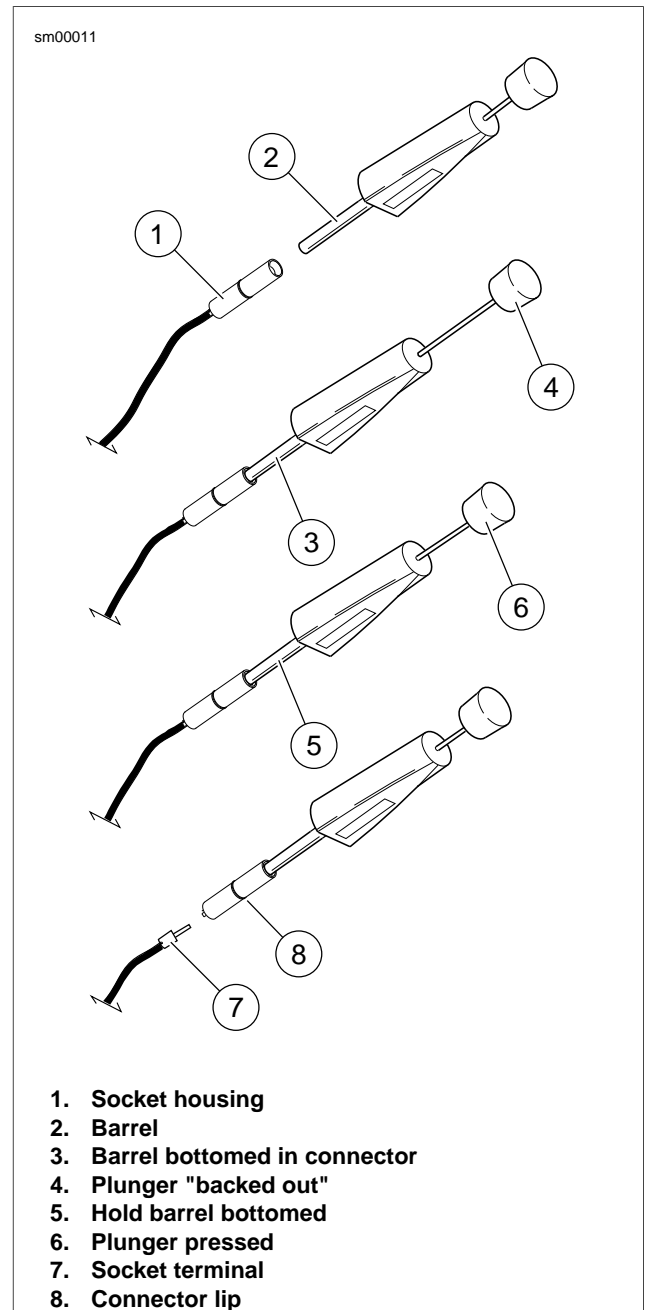

Figure A-1. Socket Terminal Tool (HD-39621-27)
1. See Figure A-1. Grasp the lead on the wire end of the socket housing (1) and push the terminal forward toward the mating end of the connector until it stops. This will disengage the locking tang from the groove in the connector.
2. Fit the barrel (2) of the SOCKET TERMINAL TOOL (Part No. HD-39621-27) over the socket.
3. While rotating the tool slightly, push until it bottoms (3) in the socket housing.
4. Allow the plunger (4) to "back out" of the handle.
5. Holding the socket housing while keeping the tool firmly bottomed (5), depress the plunger (6). The terminal (7) pops out the wire end of the connector.